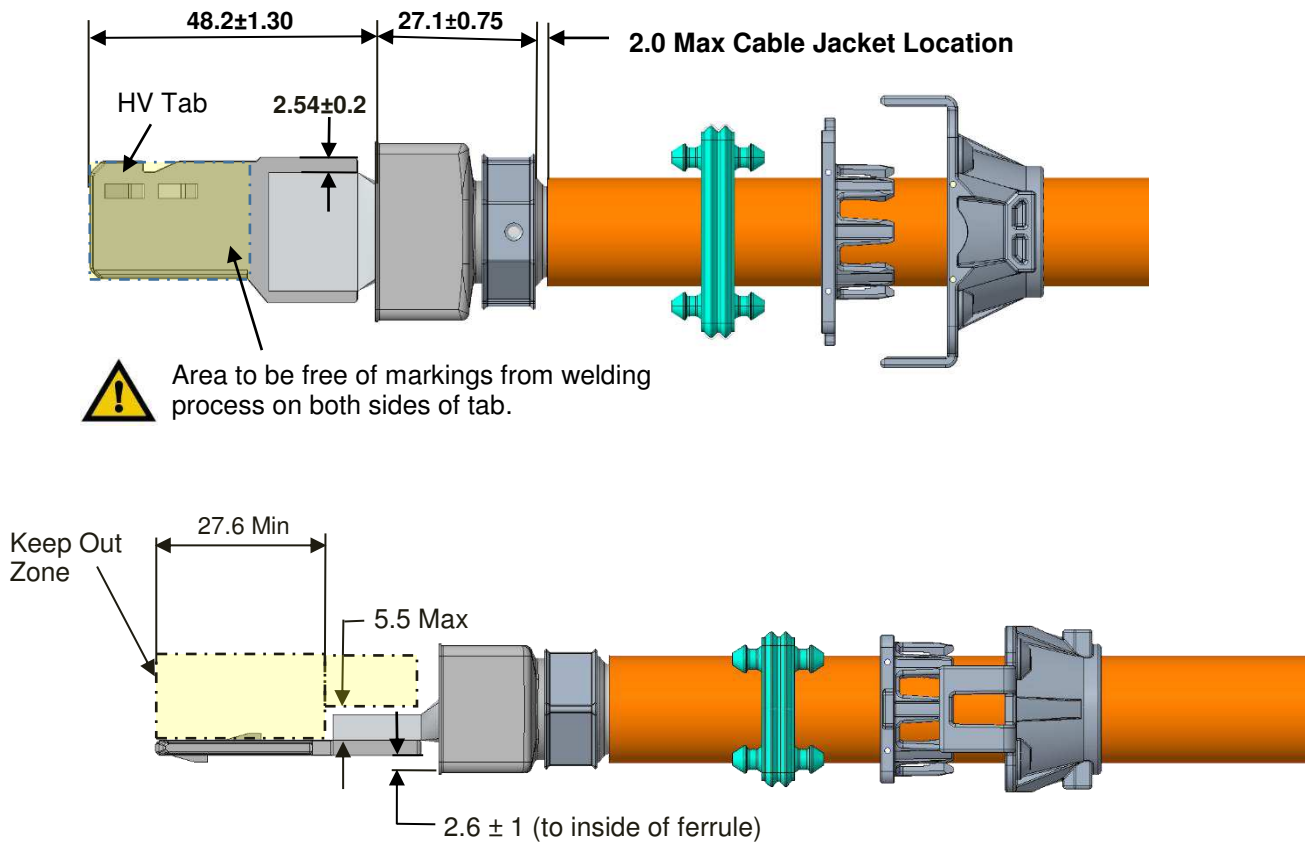

Figure 8a: HV Tab ultrasonic welding terminal cavity 1
3. Figure 8A & 8B updated, Under Section 3.8 Note 6 updated.